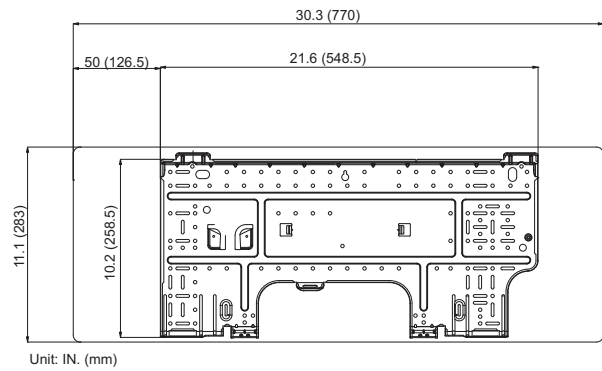
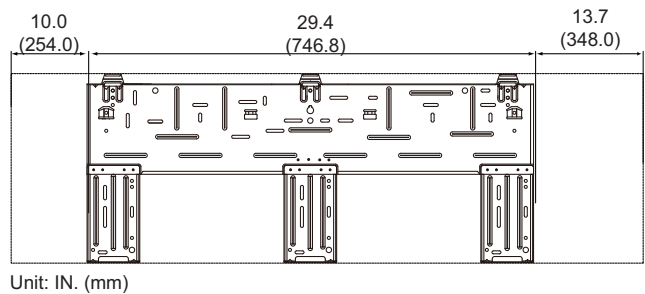

Fig. 7 - 09 and 12K Mounting Plate Spacing
Fig. 10 - 30/36k Mounting Plate Spacing
2. The mounting plate should be located horizontally and level on the wall. All minimum spacings shown in Fig. 7 through Fig. 10 should be maintained.